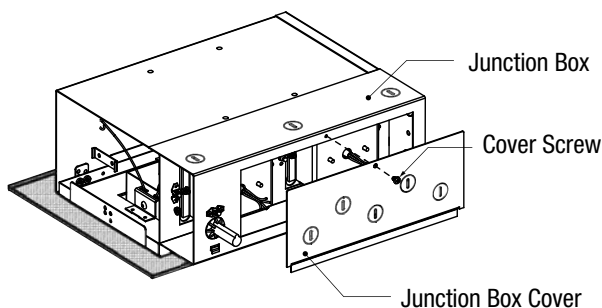

FIGURE 4
Step 2. Remove junction box cover **Fig 4.**
Step 5. Place all connections and excess wiring into the junction box and replace cover **Fig 4.**